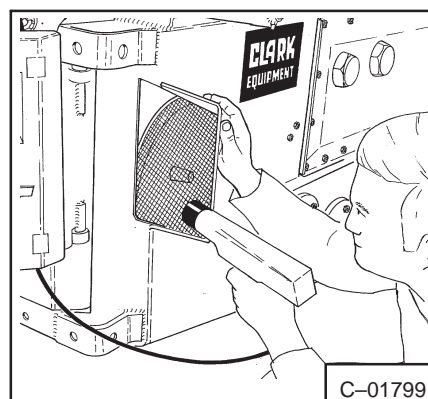

Fig. 1-28 Check Notch W/ Timing Light
3. Point timing light so that it will show the notch on flywheel screen (Fig. 1-28).